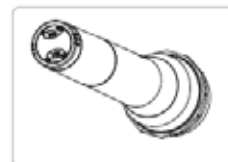

Figure 3
3. Insert 2 pieces of UM-3 1.5V batteries, remember to match correct polarity, (Step 3 of Figure 3)
4. Directly push the battery tray back. (Step 4 of Figure 3)